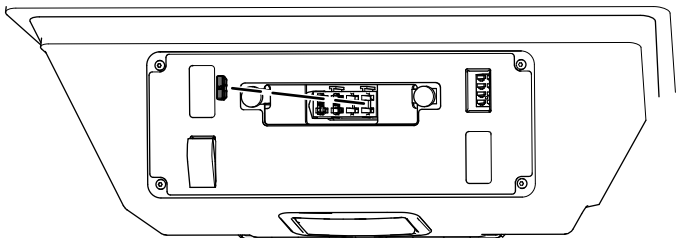

Figure 25
1. Install the fuse into the opening in the fuse block as shown in Figure 25.